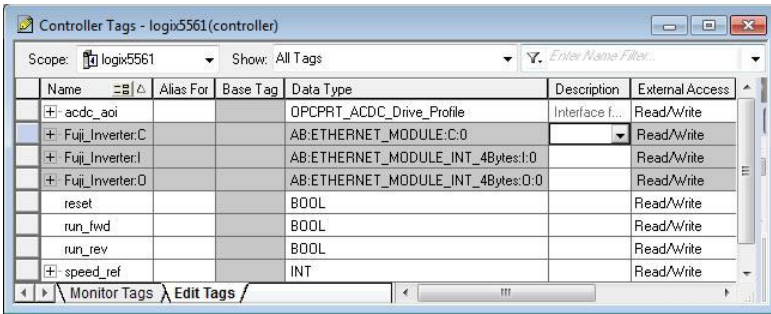

Figure 46: Create AC/DC Drive Profile AOI Tags
- 4) Create the tags in Figure 46.